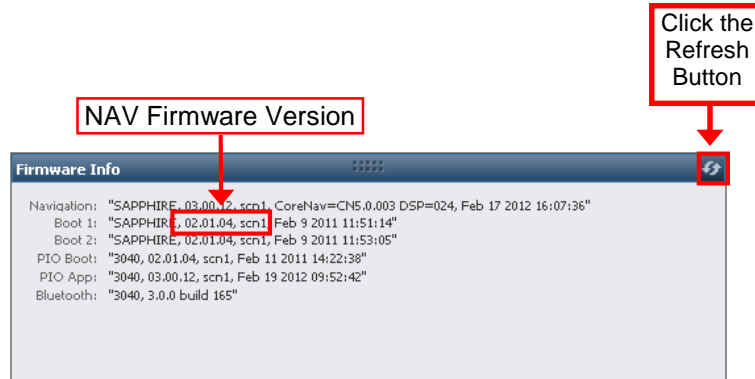

Figure 8: Example of Installed Firmware
- Click  (refresh) on the *Firmware Info* window to view the current output data (see Figure 8).
56. Check the *Firmware Info* window (see Figure 8) to view the current versions of all uploaded firmware.